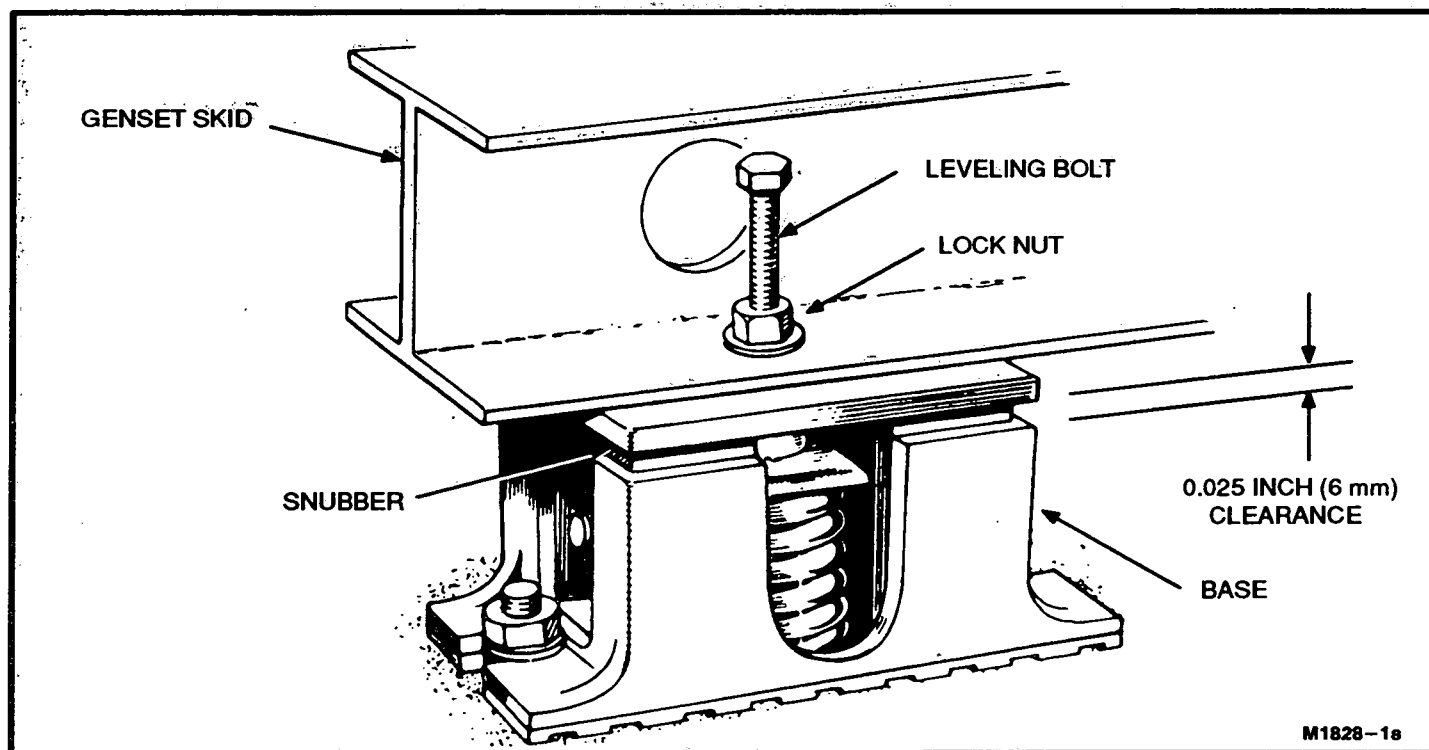

FIGURE 3-3. VIBRATION ISOLATORS
1. Place the vibration isolators (Figure 3-3) on the genset support structure. The isolators should be shimmed or grouted to ensure that all of the isolator bases are within 0.25 inch (6 mm) elevation of each other. The surface that the isolator bases rest on must also be flat.